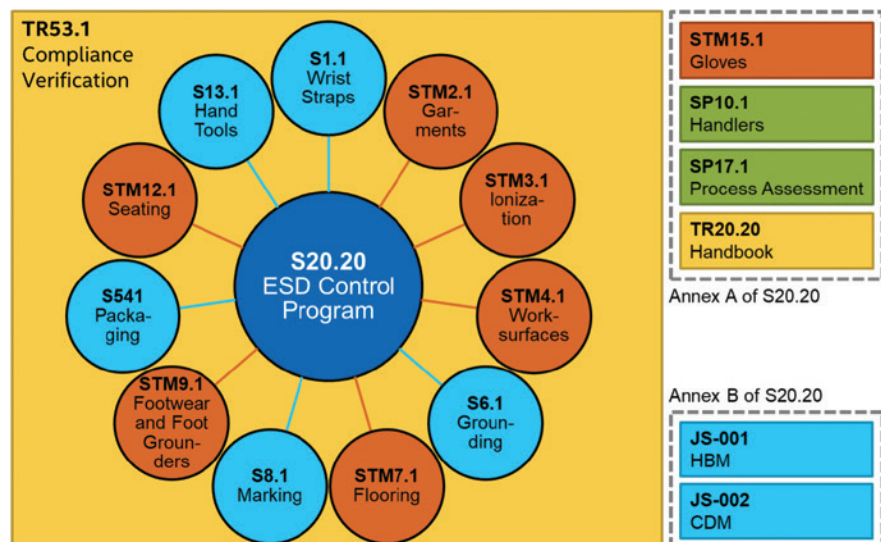

Figure 1: ESD Association Documents Referenced in ANSI/ESD S20.20
ANSI/ESD S20.20 refers to several standards and STMs defining the test methods for ESD control items, such as ESD-control flooring, seating, packaging, etc., and ESD control measures, such as personnel grounding (see Figure 1). Furthermore, it references the technical report (TR) *ESD TR53 – ESD Association Technical Report for the Protection of Electrostatic Discharge Susceptible Items – Compliance Verification of ESD Control Items* for all requirements on compliance verification. The new version of ANSI/ESD S20.20